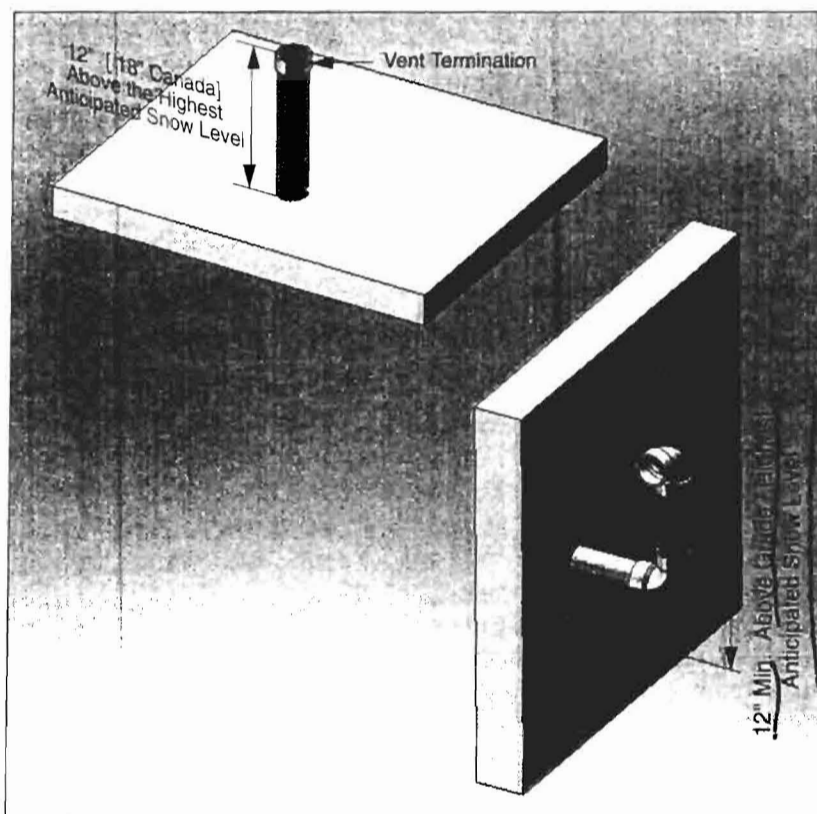

Fig. 21: Direct Vent - Vertical Vent and Side Wall Combustion Air
2. The combustion air piping must terminate with a 90° elbow. Fig. 21 shows a snorkel termination option. The combustion air pipe can also terminate using a 90° elbow directed down or to the left or right as shown in figures 8 or 13 page 11 or 12. The termination must be installed 12" minimum above grade / highest anticipated snow level and as shown in Fig. 8 page 11 or Fig. 13 page 12 or Fig. 21.